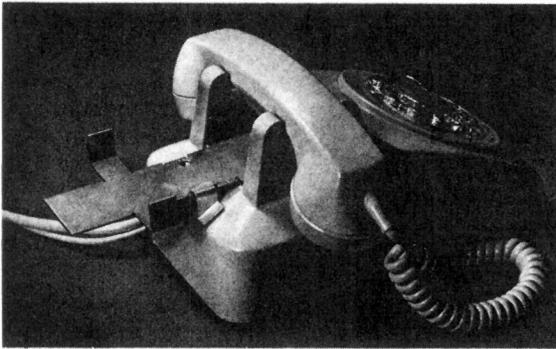

Fig. 3—109A Bracket Mounted on 500DR Telephone Set
- (1) Snap the 1035C3A dial on the bracket as shown in Fig. 3.